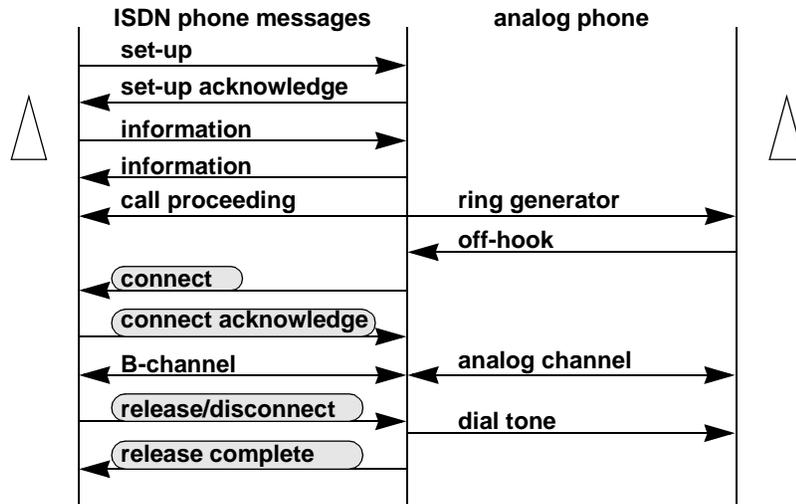

Figure 3-2 ISDN call set-up/tear-down messages
- 3.5 Figure 3-2 shows the messages sent for a voice call set-up. The echo canceller is in clear channel (bypass) until CONNECT or CONNECT ACK messages are received with the correct parameters. Echo cancellation is enabled upon receipt of a CONNECT or CONNECT ACK message when the call is voice or A-law, and only uses a 64kbps DS0. The echo canceller stays active until a DISCONNECT, RELEASE, or RELEASE COMPLETE message is received. (The default setting for echo cancellation is **off**.)